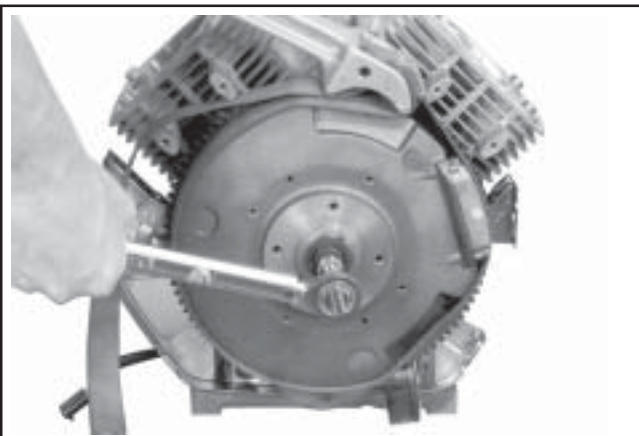

Figure 11-29. Installing and Torquing Flywheel Fastener.
4. Use a flywheel strap wrench or holding tool to hold the flywheel. Torque the hex flange screw securing the flywheel to the crankshaft to **66.4 N·m (49 ft. lb.)**. See Figure 11-29.